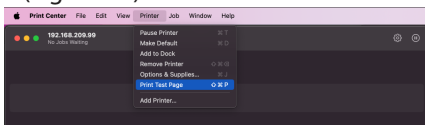

Figure 39
6. Click the **Printer** menu bar and select **Print Test Page**. A printout with information about the **Printer** and **Print Server** should be printed to ensure everything is working as expected. (Figure 39)